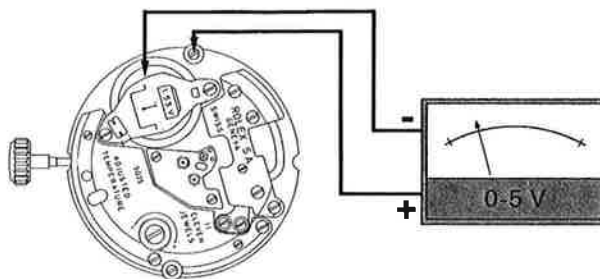

Fig. 5
- 2.1 Place the positive voltmeter test lead terminal on the movement, for example in the notch of the screw for case and the negative terminal on the top side of the battery (Fig. 5). The voltage must be at least 1.55 volt.